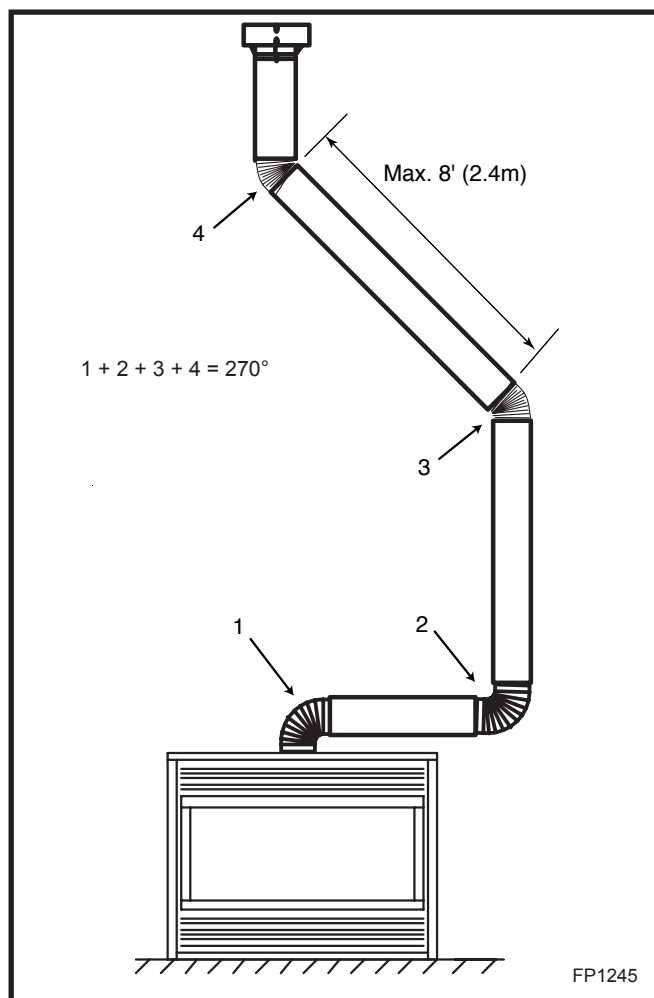

Fig. 29 Typical offset application.
- Two sets of 45° elbows offsets within these vertical installations. From 0 to a maximum of 8' (2.m) of vent pipe can be used between elbows. (Fig. 29)